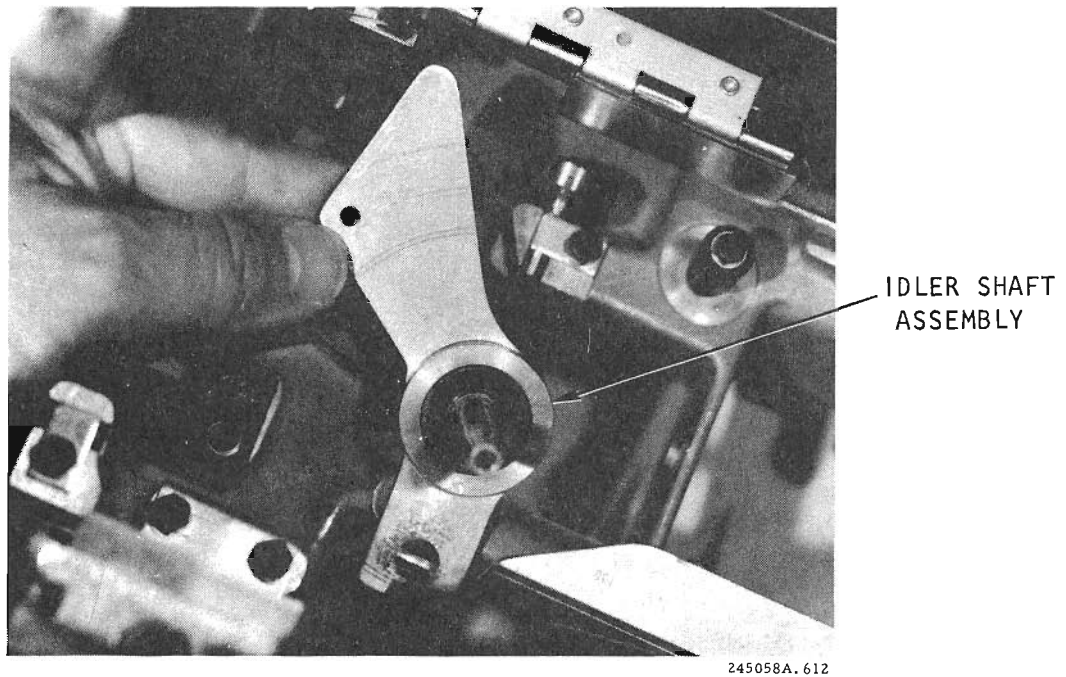

Figure 6-12. Idler Shaft Assembly
- a. Grasp the idler shaft assembly as illustrated in figure 6-12 (Hammer Bank open) and place into position.